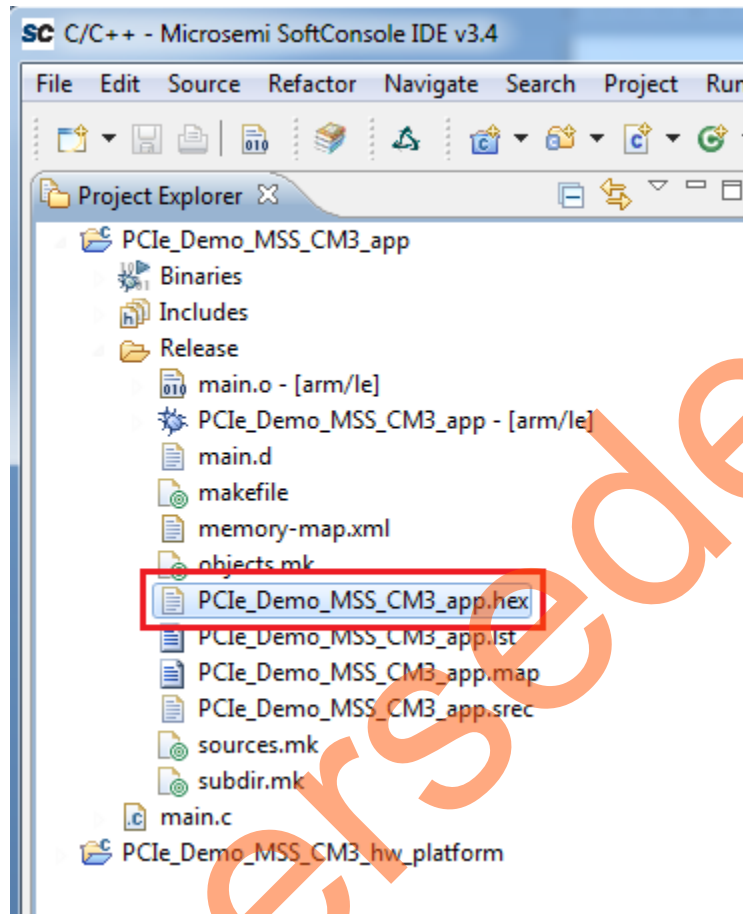
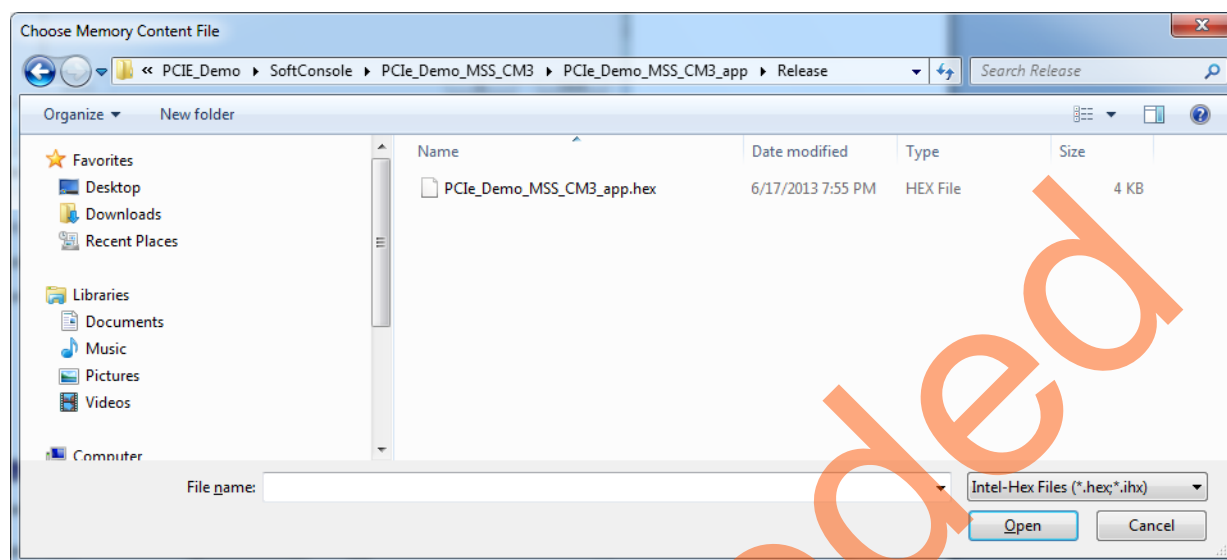

Figure 37 • Generated Hex File
Figure 40 • Browsing for .hex File
12. The SoftConsole creates a hex file in the **Release** folder under the **PCle_Demo_MSS_CM3_app** project as shown in Figure 37.
18. Browse for the .hex file generated (as shown in Figure 37 on page 37). The generated executable image can be found in the **Release** folder under the SoftConsole project workspace as shown in Figure 40.